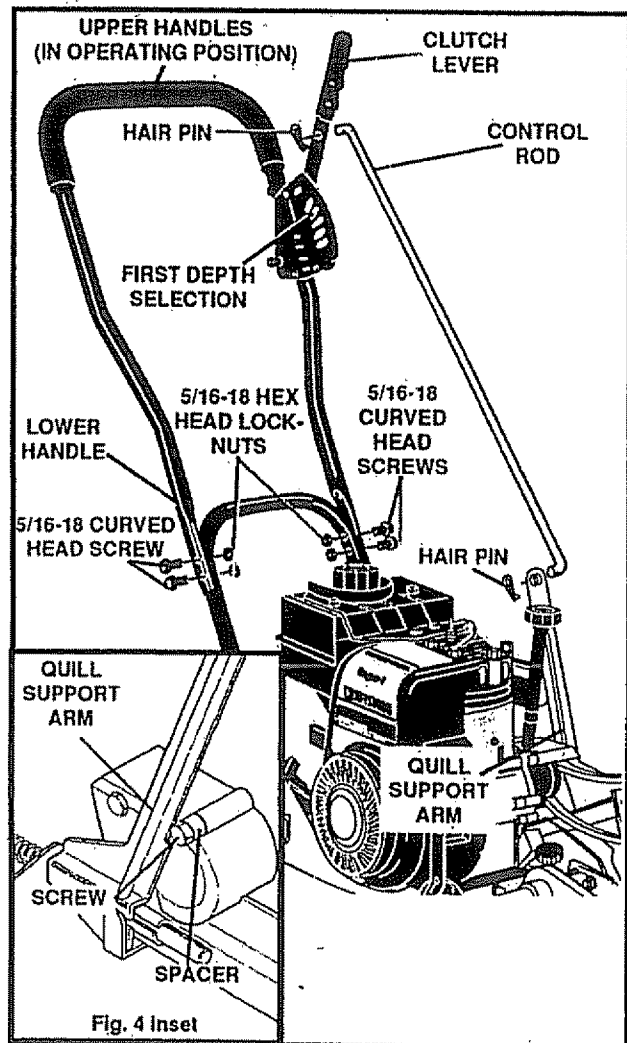
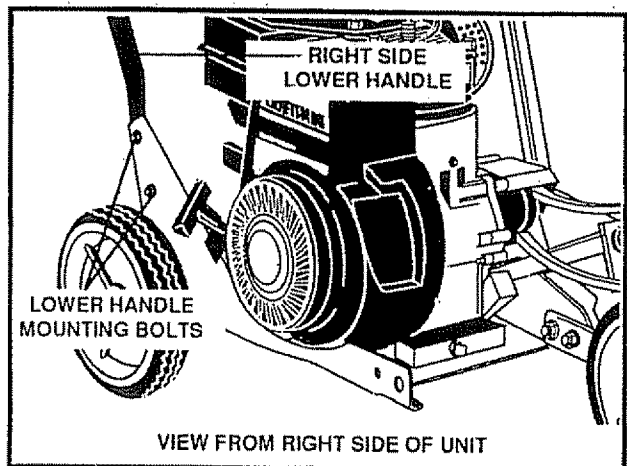

FIG. 4
FIG. 5
- Place the upper handle on the lower handle (See Fig. 4), align upper handle holes with holes in the lower handle, and secure in place with four (4) 5/16-18 x 1-1/4 inch hex head screws and four (4) 5/16-18 hex head locknuts (found in parts bag). Locknuts should be to the inside of the two handles as shown in Fig. 4.
- Insert one end of the control rod from left to right through the hole in the clutch lever (See Fig. 4) and attach with a hair pin (found in the parts bag).
- Place the clutch lever in the first depth selection (Fig. 4) and insert the other end of the control rod through the hole in the quill support arm (See Fig. 4). Attach with hairpin (found in parts bag).
**NOTE:** If it is difficult to get the clutch lever into NEUTRAL, it may be necessary to loosen the four screws and nuts holding the lower handles to the frame (See Fig. 5). Pry up (forward) on the handles only enough to allow the clutch lever to freely enter the NEUTRAL position. Retighten nuts and screws. When the clutch lever is in NEUTRAL the quill support arm should be against the spacer and screw behind it (See Fig. 4 inset).